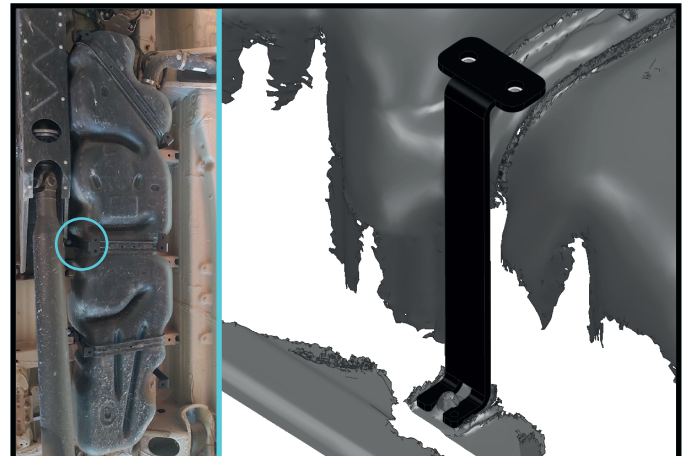

Fig. 4
4. Remove factory bolt. Fix the middle left bracket (item 5) using factory bolt as shown in fig.4.